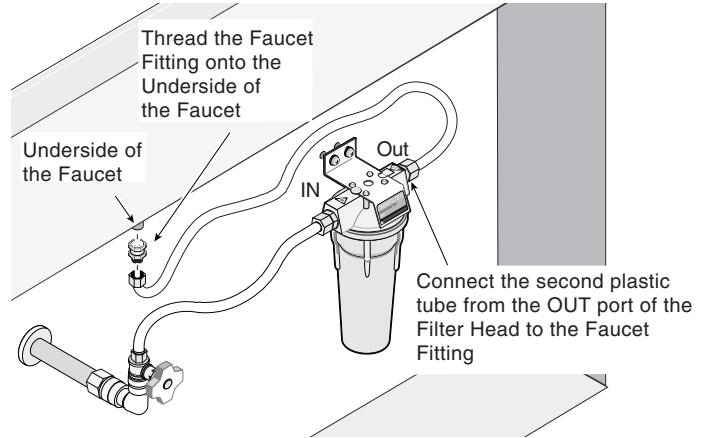

Figure 6
8. Find the faucet fitting and screw it onto the underside of the faucet. Use Teflon™ tape to seal this connection. Take the second piece of plastic tubing and another compression fitting and connect it to the OUT port of the filter head. Screw the other end of this tubing with a tubing assembly to the faucet fitting. See Figure 6.